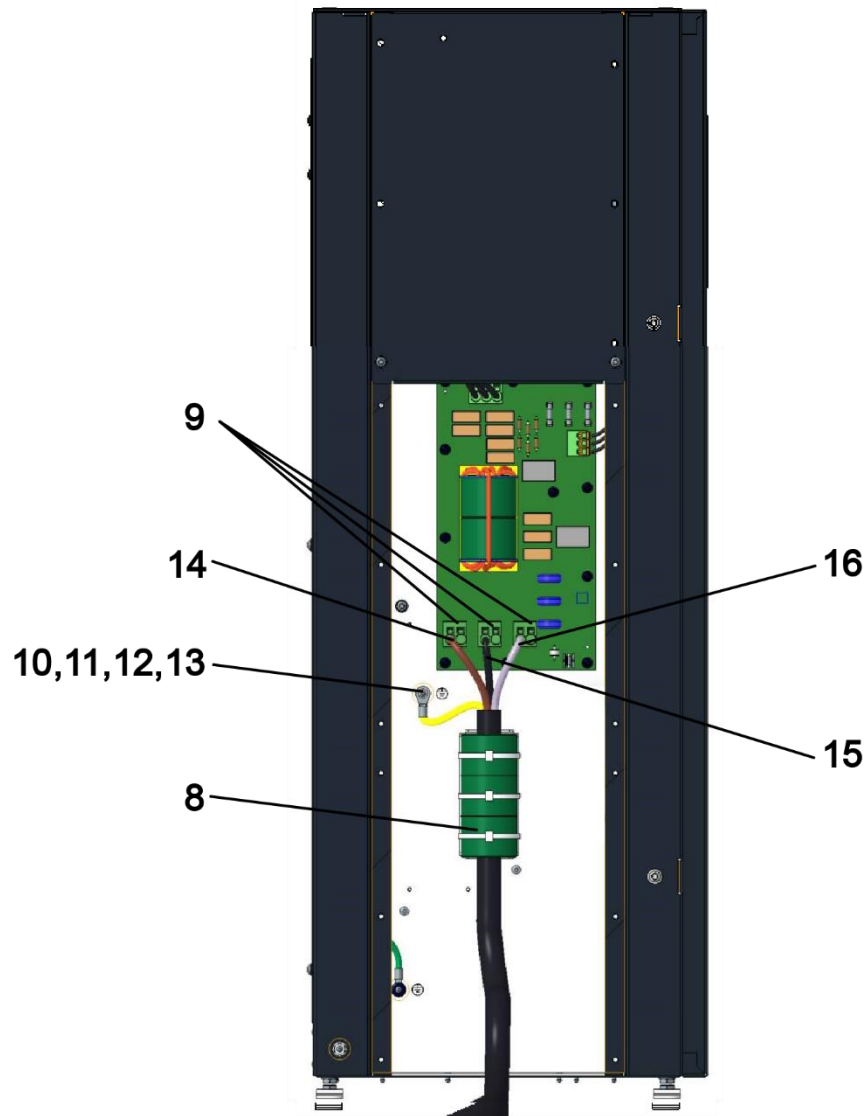

Figure. 22 Feeding the Cable through Cable Gland (view without Covers)
Note: EU wire colors are shown in Figure. 22.
- Attach the cable gland or conduit and feed the cable through to reach the ferrite ring core unit (8), see Figure. 22.